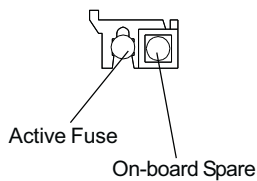
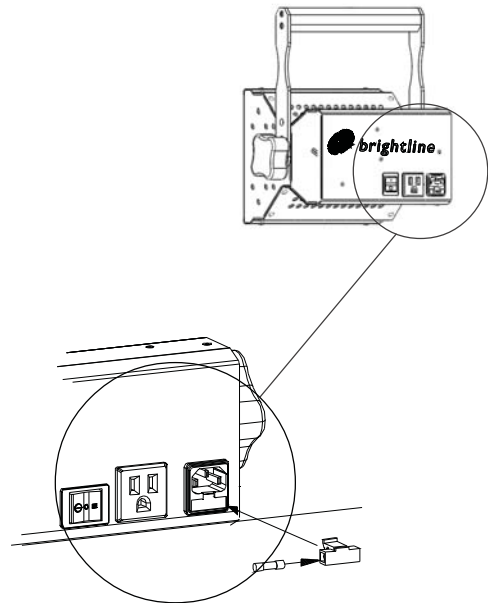

Figure 12
Figure 11
2. Remove fuse holder and check for wear (Fig. 11). If fuse is blown, replace with a new fuse or the on-board spare (Fig. 12).